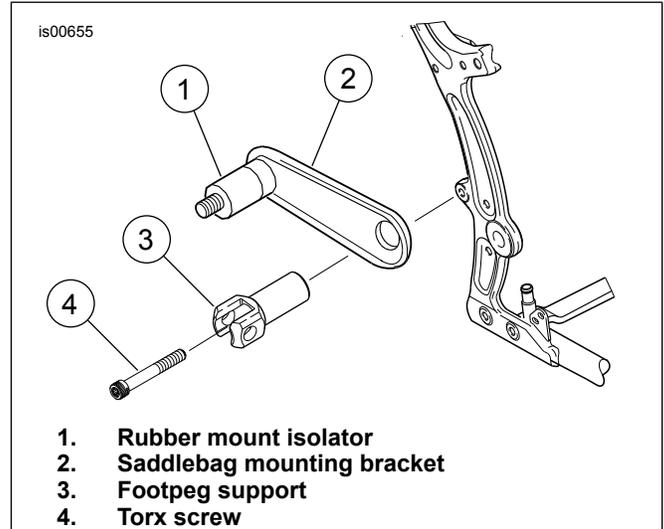

Figure 2. Install isolator and saddlebag mounting bracket.
4. See Figure 2. Install rubber mount isolator (1) on saddlebag mounting bracket (2).